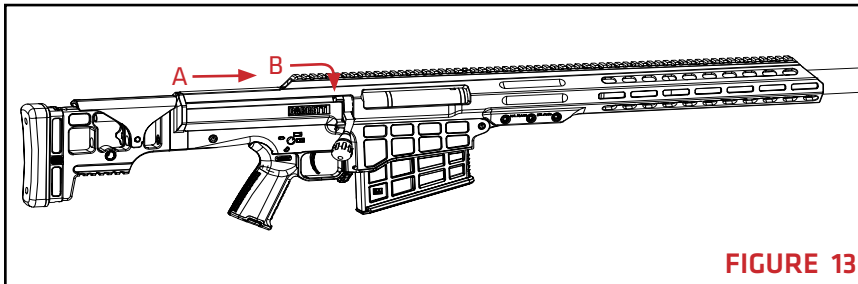

FIGURE 13
5. Push the bolt handle forward (**FIGURE 13-A**) to feed a cartridge from the magazine into the chamber. Then rotate the bolt handle down to close the bolt (**FIGURE 13-B**).